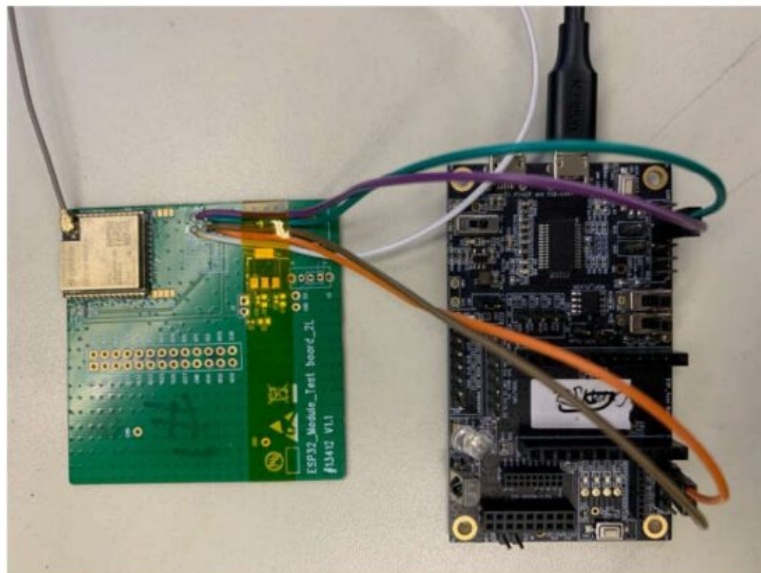

Figure 2: Hardware Connection
1. Solder the ESP32-C6-WROOM-1U module to the RF testing board as shown in Figure 2.